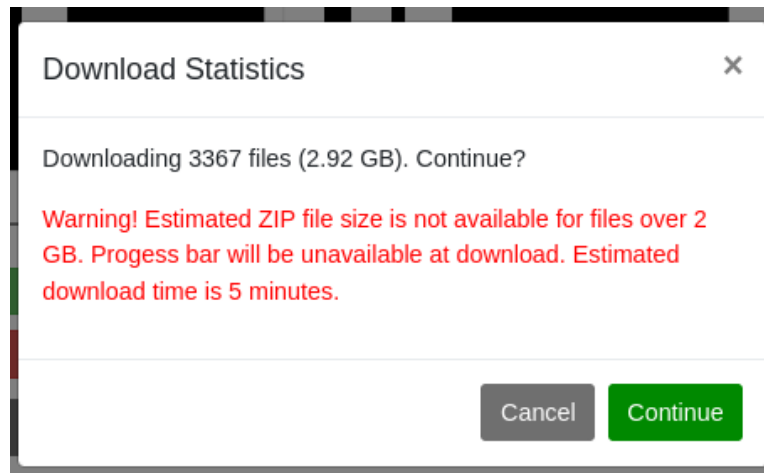

Figure 26. Download pop-up warning.
3.5 Phasor Data (5)
Users can download phasor from the Phasor Data (5) storage page. This page functions in the same way as the HDD and SD storage pages. Users can use the box select tool to download multiple files at once. These files will be downloaded as a zipped file, additionally containing the `phasors.conf` configuration file generated by the ViPERS configuration page. This page also gives options to delete previously downloaded files, delete all phasor data files, and download all files. Previously downloaded files should be deleted every time the user downloads to conserve space in the Linux file system on the MUGS/MPM. Downloading many phasor files at a time may be time-consuming, especially if the file is large (i.e., over 2 GB). For each phasor data download, a pop-up window will warn the user of the data size and the estimated download time (Figure 26).